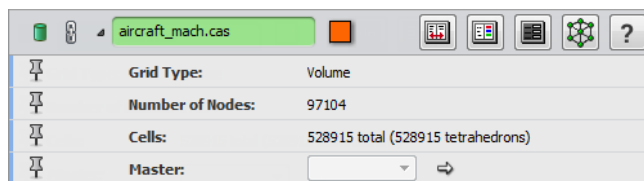

Figure 13.67: Properties area of the model
- Select the model in the *Project View*. Details about it appear in the Properties area (see Figure 13.67).